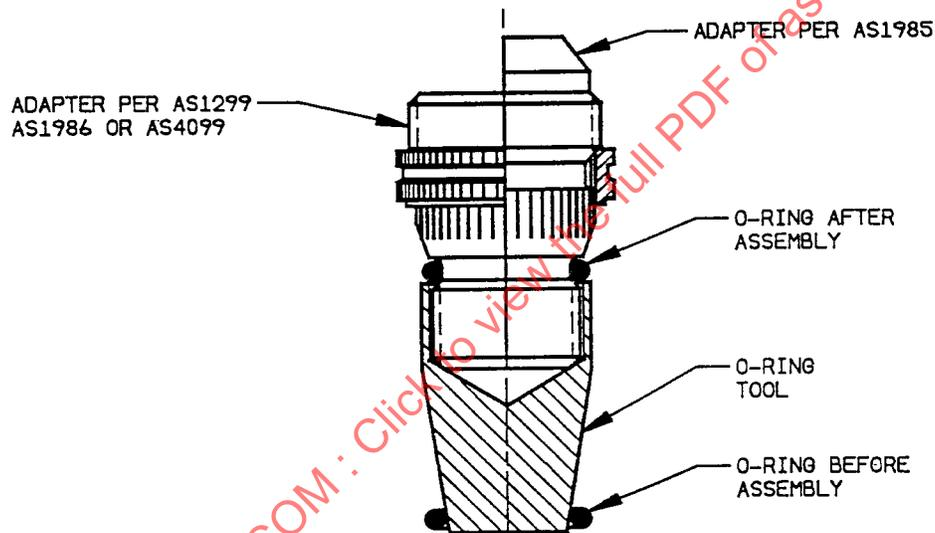

FIGURE 2 - O-ring Installation
- 5.1.1 Place the O-ring (per Table 2) over the small thread of the adapter. Submerge the adapter, O-ring tool and O-ring in the fluid to be used in the working system, or a lubricant compatible with the system fluid and all components. Slide the O-ring over the O-ring tool and onto the adapter. Be sure that the O-ring is not twisted and is properly seated in the groove of the adapter. See Figure 2.